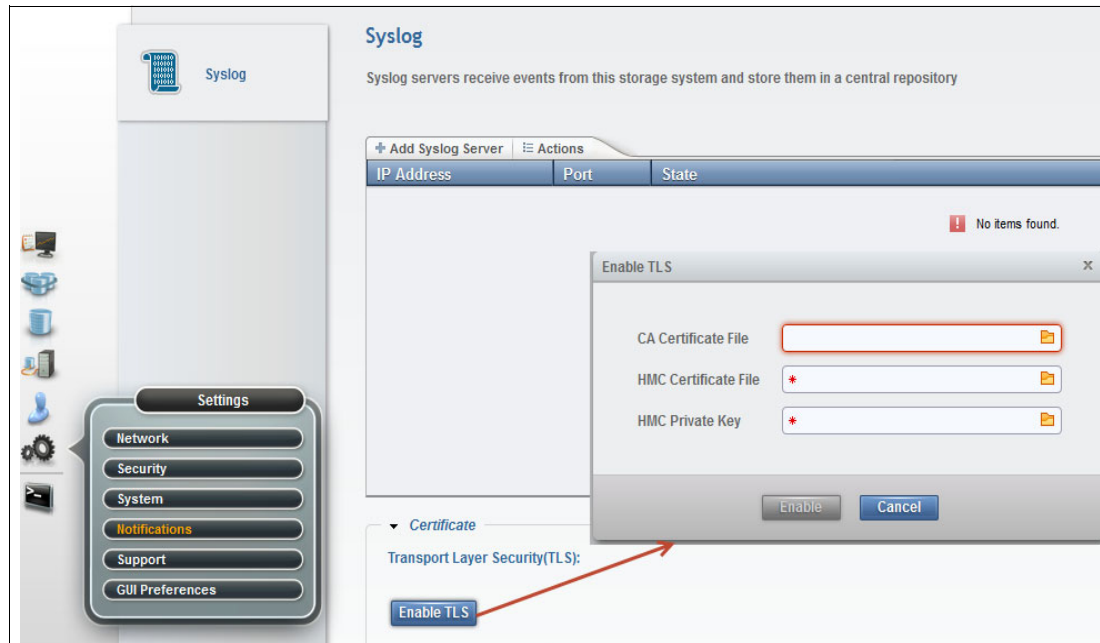

Figure 11-98 Notification Syslog Configuration
1. Click **Settings** → **Notifications**, as shown in Figure 11-98.